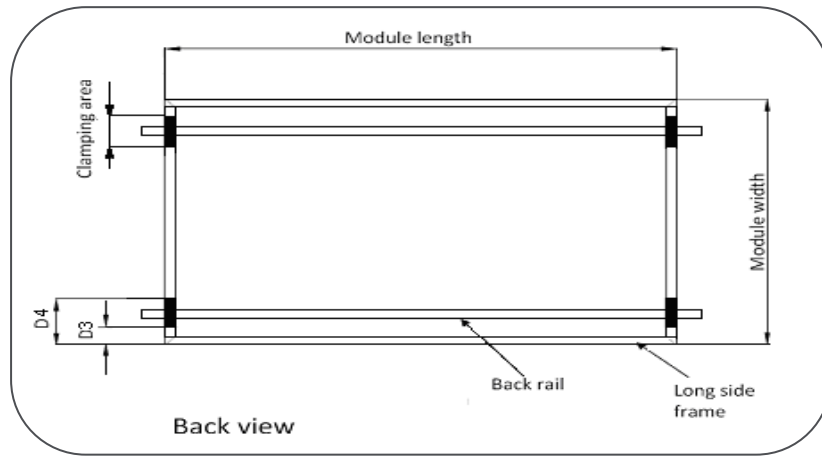

Figure 3 Short rail mounting clamp zone (D3 and D4)
- Clamp on the short side of the frame (see Figure 3, measurements below)